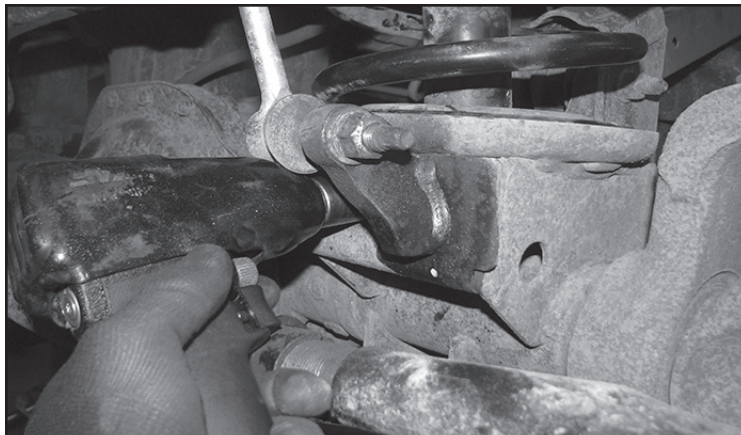
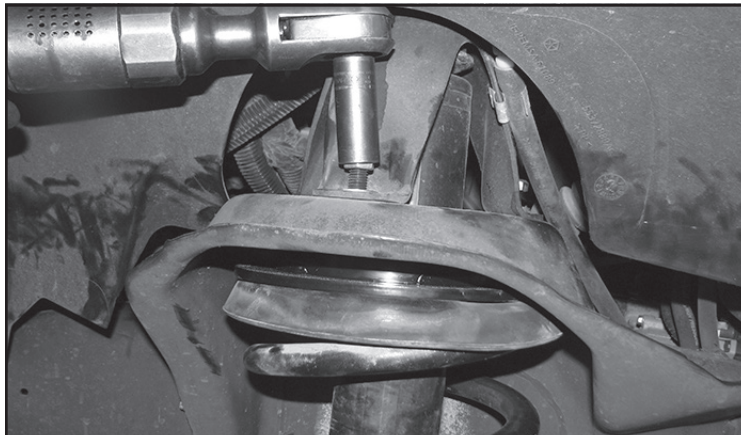

FIGURE 9 - STEP 9
FIGURE 10 - STEP 9
9. Re-install the factory coil spring and rubber isolator. Install the shock into the lower mount with the factory bolt. Torque to 120 ft-lbs. **SEE FIGURE 9.** Next, Torque the 3/8" upper spacer hardware to 52 ft-lbs **SEE FIGURE 10.**